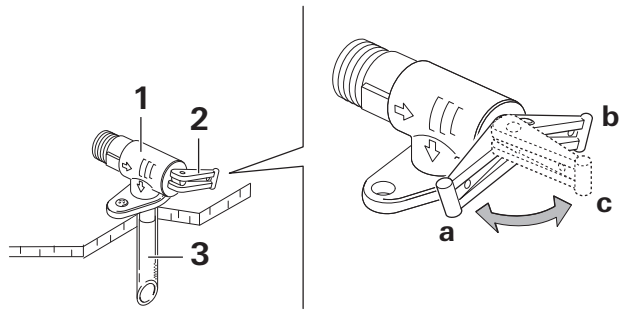

Fig. 7
- Before lifting the lever (Fig. 7 – 2), make sure that the discharge line is securely attached and properly installed, to prevent injury and property damage.